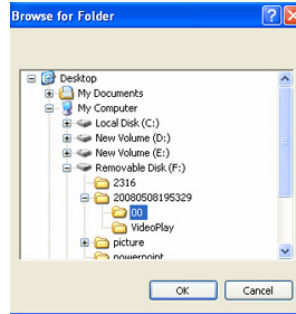

Fig 3.21 Choose Backup Folder
- ① Search area
- ② video display area
- ③ Video data area
- ④ Control area
- ⑤ AVI converting
STEP2 Click Browse to choose the folder which contains the video backup, as in Fig 3.21 Choose Backup Folder.